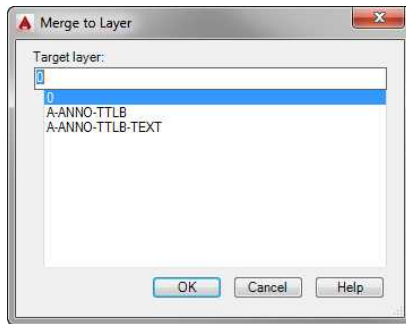

FIGURE 14.6: Selecting layer 0 from the Merge To layer dialog box
9. Select layer 0 from the Merge To Layer dialog box shown in Figure 14.6.